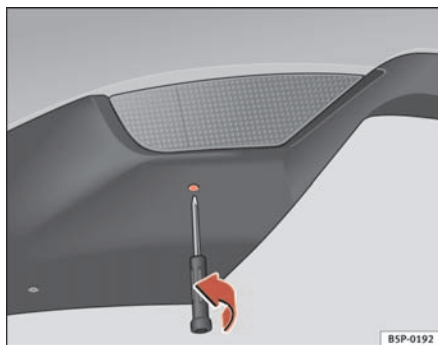

Fig. 192 Rear light fitted on bumper and viewed from below
- Insert the star-headed screwdriver in the opening on the lower section of the rear light and unscrew the screw in the direction of the arrow ⇒ fig. 192.